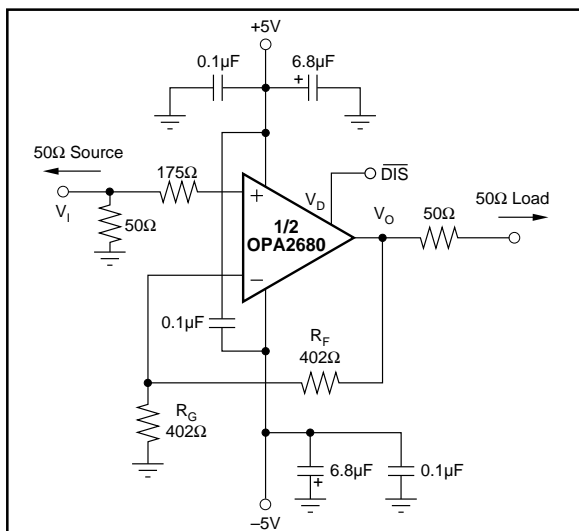
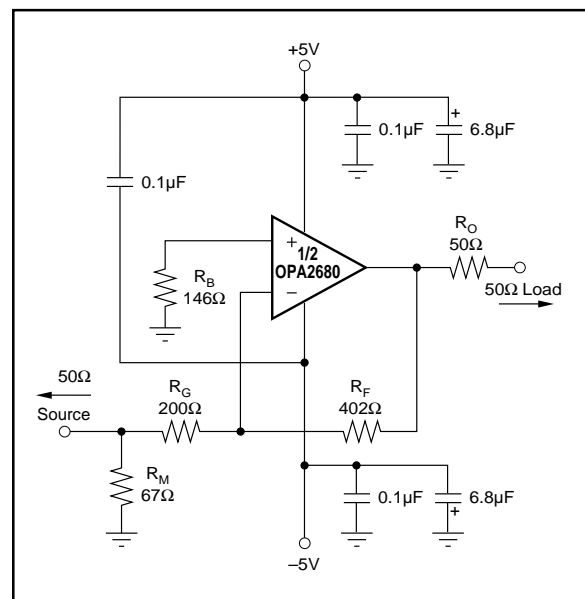
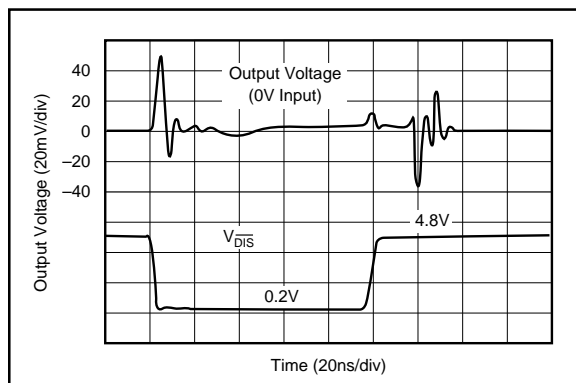

FIGURE 1. DC-Coupled, G = +2, Bipolar Supply, Specification and Test Circuit.
FIGURE 9. Gain of -2 Example Circuit.
FIGURE 15. Disable/Enable Glitch.
At $T_A = +25^\circ\text{C}$, $G = +2$, $R_F = 402\Omega$, and $R_L = 100\Omega$, unless otherwise noted. See Figure 1.
At $T_A = +25^\circ C$, $G = +2$, $R_F = 402\Omega$, and $R_L = 100\Omega$, unless otherwise noted. See Figure 1.
Figure 1 shows the DC-coupled, gain of +2, dual power supply circuit configuration used as the basis of the ±5V Specifications and Typical Performance Curves. This is for one channel. The other channel is connected similarly. For test purposes, the input impedance is set to 50Ω with a resistor to ground and the output impedance is set to 50Ω with a series output resistor. Voltage swings reported in the specifications are taken directly at the input and output pins, while output powers (dBm) are at the matched 50Ω load. For the circuit of Figure 1, the total effective load will be 100Ω || 804Ω. The disable control line (SO-14 package only) is typically left open to guarantee normal amplifier operation. Two optional components are included in Figure 1. An additional resistor (175Ω) is included in series with the non-inverting input. Combined with the 25Ω DC source resistance looking back towards the signal generator, this gives an input bias current cancelling resistance that matches the
A good rule of thumb is to target the parallel combination of R_F and R_G (Figure 1) to be less than approximately 300Ω . The combined impedance $R_F \parallel R_G$ interacts with the inverting input capacitance, placing an additional pole in the feedback network and thus, a zero in the forward response. Assuming a $2pF$ total parasitic on the inverting node, holding $R_F \parallel R_G < 300\Omega$ will keep this pole above $250MHz$. By itself, this constraint implies that the feedback resistor R_F can increase to several $k\Omega$ at high gains. This is acceptable as long as the pole formed by R_F and any parasitic capacitance appearing in parallel is kept out of the frequency range of interest.
Voltage feedback op amps exhibit decreasing closed-loop bandwidth as the signal gain is increased. In theory, this relationship is described by the Gain Bandwidth Product (GBP) shown in the specifications. Ideally, dividing GBP by the non-inverting signal gain (also called the Noise Gain, or NG) will predict the closed-loop bandwidth. In practice, this only holds true when the phase margin approaches 90° , as it does in high gain configurations. At low gains (increased feedback factor), most amplifiers will exhibit a more complex response with lower phase margin. The OPA2680 is compensated to give a slightly peaked response in a non-inverting gain of 2 (Figure 1). This results in a typical gain of +2 bandwidth of $220MHz$, far exceeding that predicted by dividing the $300MHz$ GBP by 2. Increasing the gain will cause the phase margin to approach 90° and the bandwidth to more closely approach the predicted value of (GBP/NG) . At a gain of +10, the $30MHz$ bandwidth shown in the Typical Specifications agrees with that predicted using the simple formula and the typical GBP of $300MHz$.
The frequency response in a gain of +2 may be modified to achieve exceptional flatness simply by increasing the noise gain to 2.5. One way to do this, without affecting the +2 signal gain, is to add an 804Ω resistor across the two inputs in the circuit of Figure 1. A similar technique may be used to reduce peaking in unity gain (voltage follower) applica-
Since the OPA2680 is a general purpose, wideband voltage feedback op amp, all of the familiar op amp application circuits are available to the designer. Inverting operation is one of the more common requirements and offers several performance benefits. Figure 9 shows a typical inverting configuration where the I/O impedances and signal gain from Figure 1 are retained in an inverting circuit configuration.
The second major consideration, touched on in the previous paragraph, is that the signal source impedance becomes part of the noise gain equation and influences the bandwidth. For the example in Figure 9, the R_M value combines in parallel with the external 50 Ω source impedance, yielding an effective driving impedance of $50\Omega \parallel 67\Omega = 28.6\Omega$. This impedance is added in series with R_G for calculating the noise gain (NG). The resultant NG is 2.8 for Figure 9, as opposed to only 2 if R_M could be eliminated as discussed above. The bandwidth will therefore be slightly lower for the gain of -2 circuit of Figure 9 than for the gain of $+2$ circuit of Figure 1.
The third important consideration in inverting amplifier design is setting the bias current cancellation resistor on the non-inverting input (R_B). If this resistor is set equal to the total DC resistance looking out of the inverting node, the output DC error, due to the input bias currents, will be reduced to (Input Offset Current) $\cdot R_F$. If the 50 Ω source impedance is DC-coupled in Figure 9, the total resistance to ground on the inverting input will be 228 Ω . Combining this in parallel with the feedback resistor gives the $R_B = 146\Omega$ used in this example. To reduce the additional high frequency noise introduced by this resistor, it is sometimes bypassed with a capacitor. As long as $R_B < 350\Omega$, the capacitor is not required since the total noise contribution of all other terms will be less than that of the op amp's input noise voltage. As a minimum, the OPA2680 requires an R_B value of 50 Ω to damp out parasitic-induced peaking—a direct short to ground on the non-inverting input runs the risk of a very high frequency instability in the input stage.
The OPA2680 provides good distortion performance into a 100Ω load on ±5V supplies. Relative to alternative solutions, it provides exceptional performance into lighter loads and/or operating on a single +5V supply. Generally, until the fundamental signal reaches very high frequency or power levels, the 2nd harmonic will dominate the distortion with a negligible 3rd harmonic component. Focusing then on the 2nd harmonic, increasing the load impedance improves distortion directly. Remember that the total load includes the feedback network; in the non-inverting configuration (Figure 1) this is sum of $R_F + R_G$, while in the inverting configuration, it is just R_F . Also, providing an additional supply decoupling capacitor (0.1μF) between the supply pins (for bipolar operation) improves the 2nd-order distortion slightly (3dB to 6dB).
Evaluating these two equations for the OPA2680 circuit and component values shown in Figure 1 will give a total output spot noise voltage of $11\text{nV}/\sqrt{\text{Hz}}$ and a total equivalent input spot noise voltage of $5.5\text{nV}/\sqrt{\text{Hz}}$. This is including the noise added by the bias current cancellation resistor (175Ω) on the non-inverting input. This total input-referred spot noise voltage is only slightly higher than the $4.8\text{nV}/\sqrt{\text{Hz}}$ specification for the op amp voltage noise alone. This will be the case as long as the impedances appearing at each op amp input are limited to the previously recommend maximum value of 300Ω . Keeping both $(R_F \parallel R_G)$ and the non-inverting input source impedance less than 300Ω will satisfy both noise and frequency response flatness considerations. Since the resistor-induced noise is relatively negligible, additional capacitive decoupling across the bias current cancellation resistor (R_B) for the inverting op amp configuration of Figure 9 is not required.
high input bias current (typically $14\mu\text{A}$ out of each input terminal), the close matching between them may be used to reduce the output DC error caused by this current. The total output offset voltage may be considerably reduced by matching the DC source resistances appearing at the two inputs. This reduces the output DC error due to the input bias currents to the offset current times the feedback resistor. Evaluating the configuration of Figure 1, using worst-case $+25^\circ\text{C}$ input offset voltage and current specifications, gives a worst-case output offset voltage equal to:
One key parameter in disable operation is the output glitch when switching in and out of the disabled mode. Figure 15 shows these glitches for the circuit of Figure 1 with the input signal at 0V. The glitch waveform at the output pin is plotted along with the DIS pin voltage.
The transition edge rate (dv/dt) of the \overline{DIS} control line will influence this glitch. For the plot of Figure 15, the edge rate was reduced until no further reduction in glitch amplitude was observed. This approximately 1V/ns maximum slew rate may be achieved by adding a simple RC filter into the \overline{DIS} pin from a higher speed logic line. If extremely fast transition logic is used, a 2kΩ series resistor between the logic gate and the \overline{DIS} input pin will provide adequate bandlimiting using just the parasitic input capacitance on the \overline{DIS} pin while still ensuring adequate logic level swing.